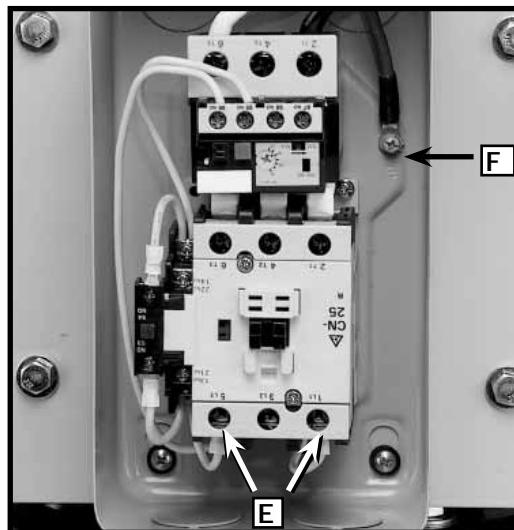

Fig. 16
- Bring the single phase power line through the access hole (B) Fig. 14, in the top of controller box and connect the two power lines to terminals (E) Fig. 16, and the green ground wire to ground screw (F).